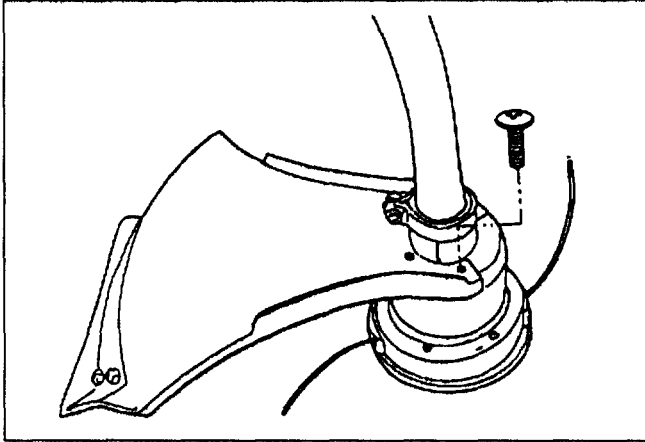

Fig. 4
4. Tighten the Phillips screws to complete the assembly of the line guard (Fig. 4).